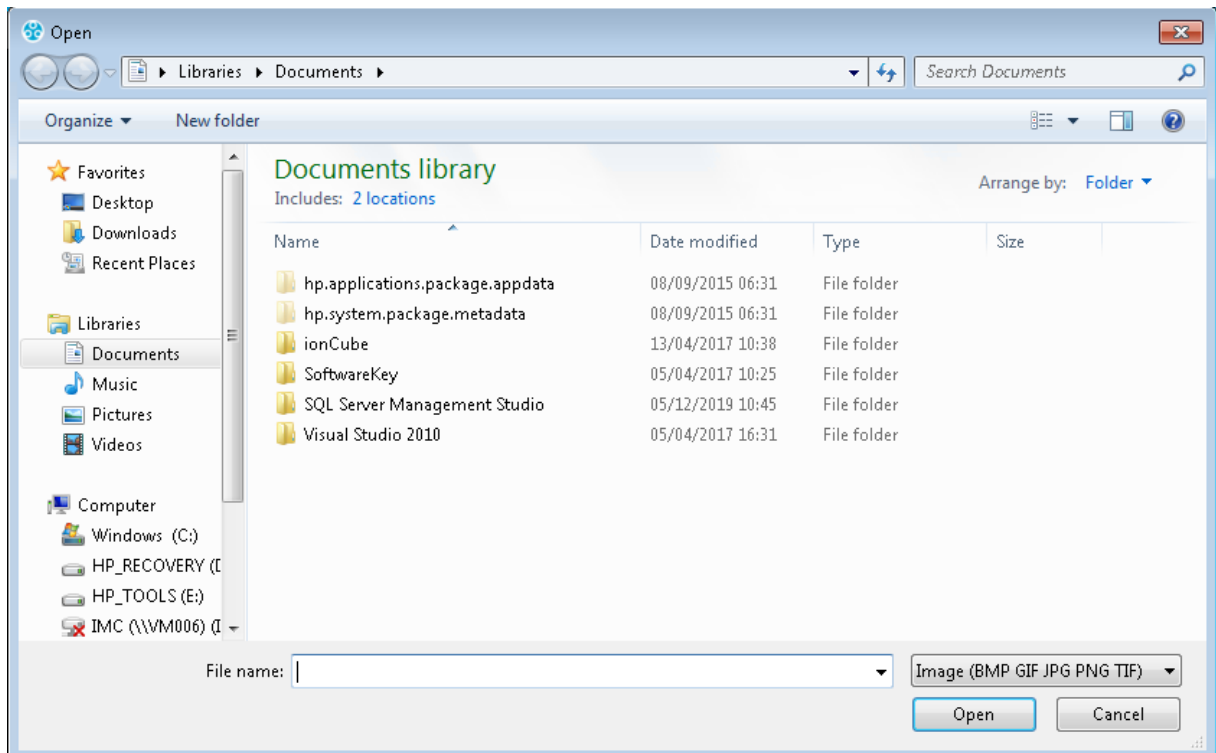

Figure 186
- The **Open** window is displayed. See Figure 186 below: